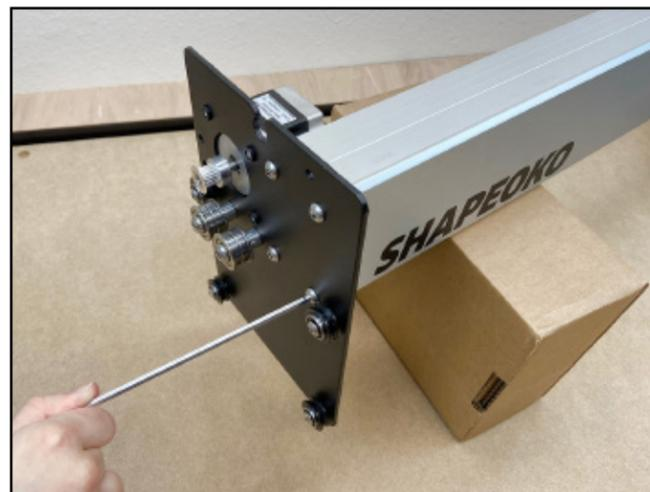

Figure 3-16
2. Use the 4mm hex key and four (4) M6×12mm button head cap screws to attach the Y1-carriage to the **LEFT** end of the X-rail as shown in **Figure 3-16**.
When properly attached, the motor body will be to the inside and behind the X-rail. The V-wheels, idlers, and motor pulley will be facing out as shown in **Figure 3-16**.